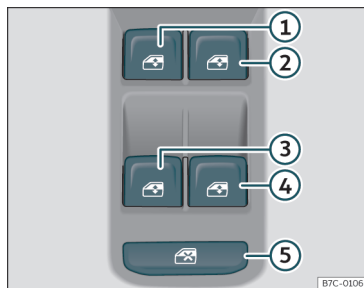

Fig. 86 Detail of the driver's door: window controls.
The safety control >>> **Fig. 86 ⑤** on the driver door can be used to disable the electric window buttons on the rear doors.